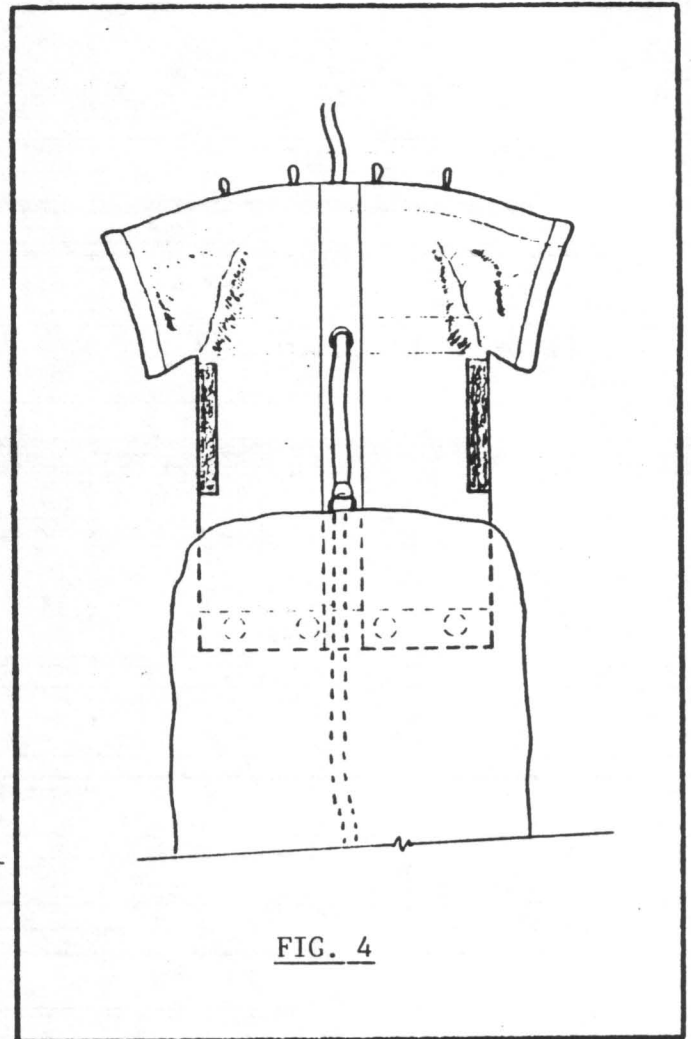

FIG. 4
- 6) The main deployment bag supplied with the JAVELIN has a velcro-closed split at each end. Open each end and lay the bag flat as shown in FIG. 4,